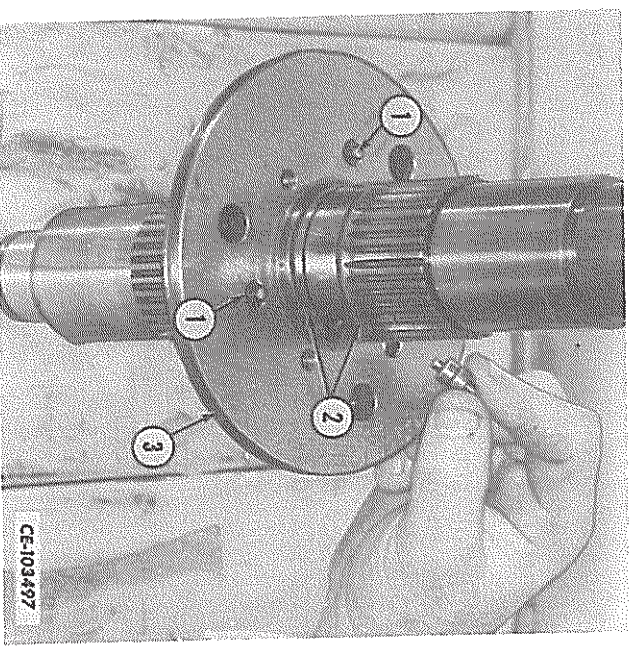

FIG 61 — Installing the Guide Pin
2. Install two hook type seal rings (2, Fig. 61) in the clutch shaft on each side of the separator plate (3).
6. Place the shaft assembly on the bench with the opposite end up. Install the three guide pins (1, Fig. 61) in the separator plate being sure they enter the holes in the reinforcing disc and disc valve installed on the underside of the separator plate.